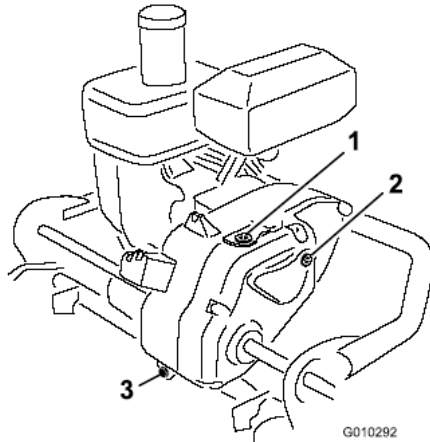

Figure 3
- B. Remove the check plug from the right-hand side of the transmission (Figure 3).
2. Remove the check plug from the right-hand side of the transmission (Figure 3). The oil level should come to the bottom of the hole. If it does not, remove the fill plug, from the top of the transmission, and add enough of the proper oil type until the level reaches the bottom of the check hole.
2. Remove the drain plug from the rear of the transmission (Figure 3).
3. Push down on the handle and tip the machine back. Remove the fill and check plugs from the transmission (Figure 3).